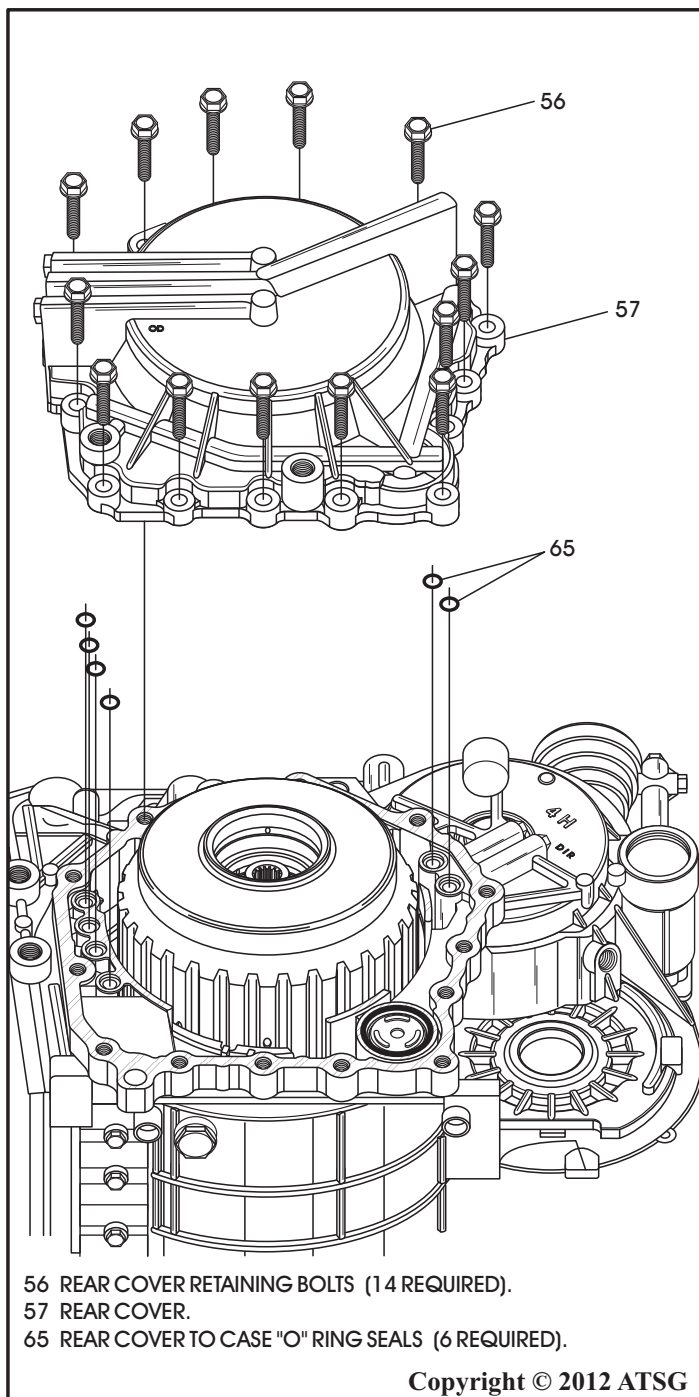

Figure 79
55. Remove the fourteen rear cover retaining bolts, as shown in Figure 79.
56. Remove the transaxle rear cover, as shown in Figure 79, and set aside for component rebuild section.
57. Remove and discard the six rear cover to case "O" ring seals, as shown in Figure 79.